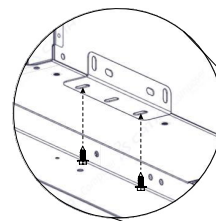

FIG. 2
9. Secure the appliance to the bottom bracket using the screws previously removed in Step 3 (FIG. 2).